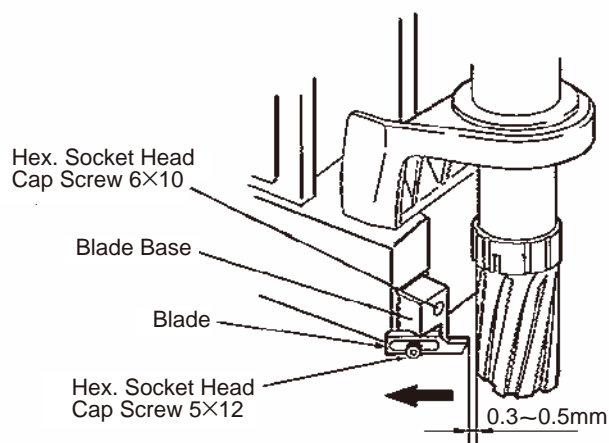

Fig. 33
(1) Mount Blade Base. (Fig.33)
(2) Mount cutter.